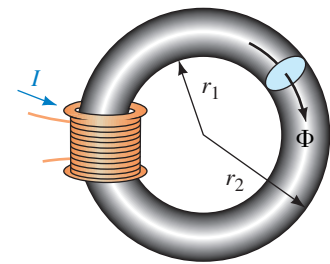

FIGURE 12-42
10. Consider again Figure 12-42. If $I = 10 \text{ A}$, $N = 40$ turns, $r_1 = 5 \text{ cm}$, and $r_2 = 7 \text{ cm}$, what is H in ampere-turns per meter?